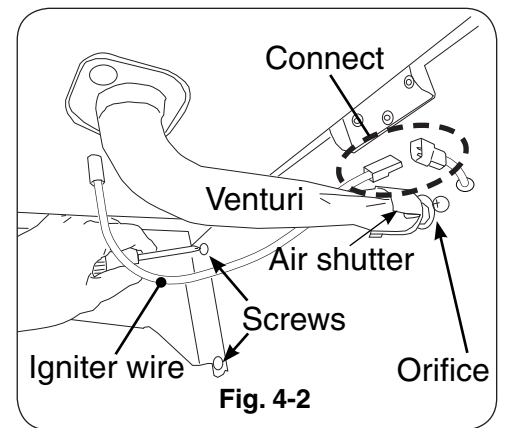

Fig. 4-2
Align the four (4) holes in the shelf with the four (4) holes in the side of the cart while aligning and engaging the burner venturi with the orifice (Fig. 4-2). Insert the four (4) screw (provided) into the holes and tighten. Make the igniter wire connection as shown in Fig. 4-2. Open sideburner lid, set cap on burner, and set grid into shelf.